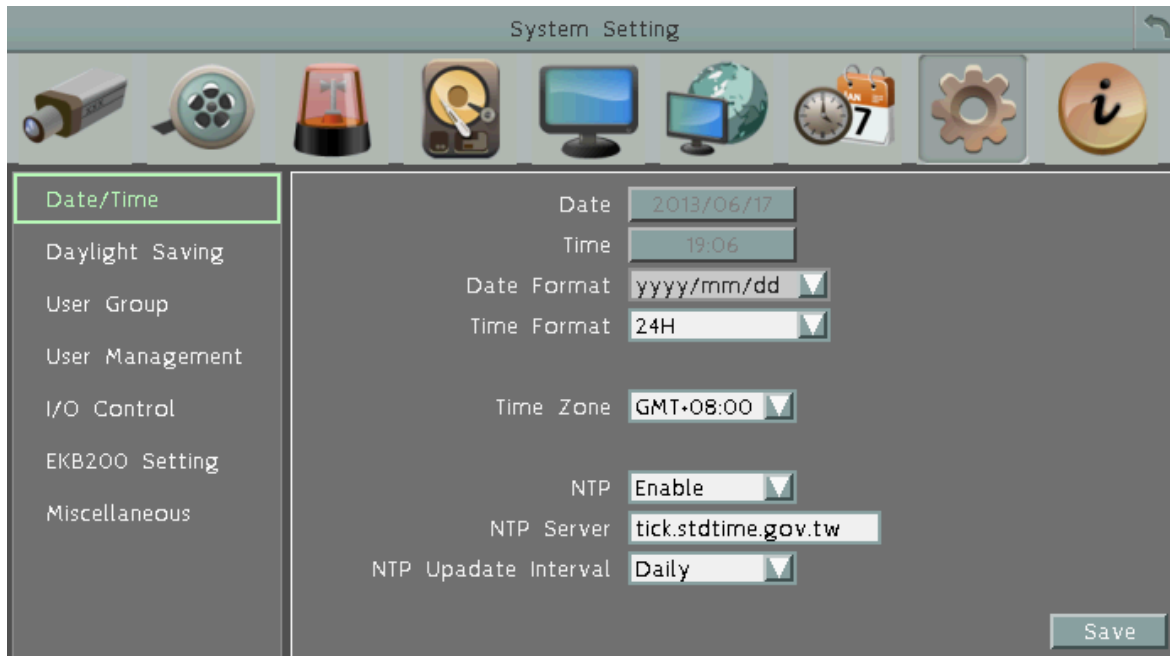

Figure 6-46
1. Click on a user account (Figure 6-46).